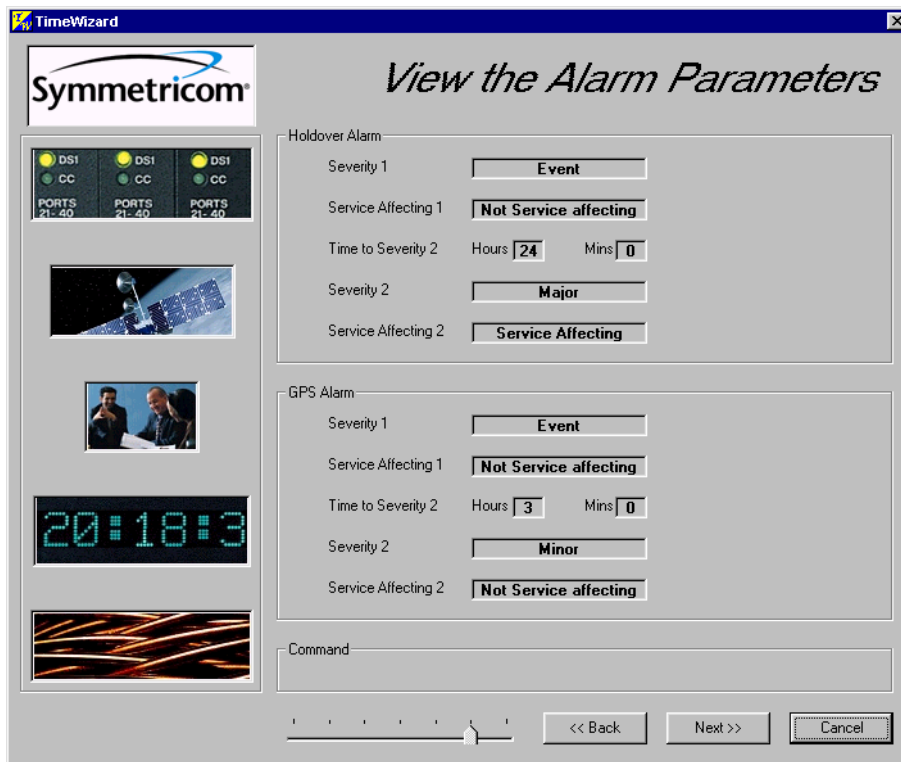

Figure 3-28. The View the Alarm Parameters Window
15. Click **Next>>**. The View the Alarm Parameters window appears, as shown in Figure 3-28.